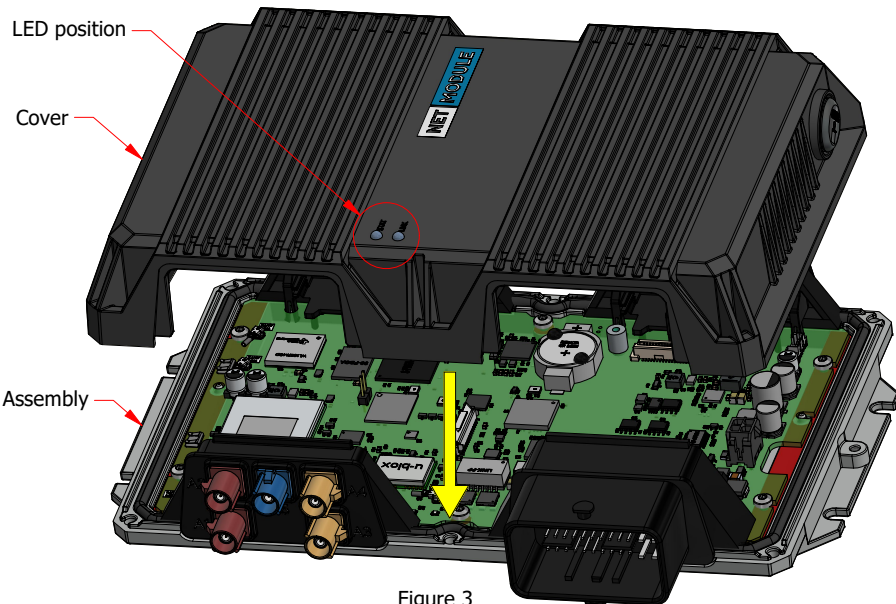

Figure 3
- 3.1 Place the cover over the assembly (Figure 3)